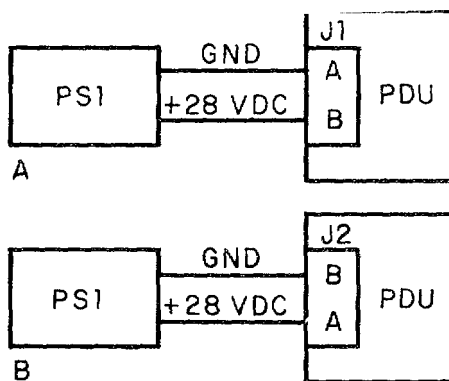

Figure B-4. Reverse Voltage Test Setup
- (a) Connect PS2 and PDU as shown in figure B-4 below.